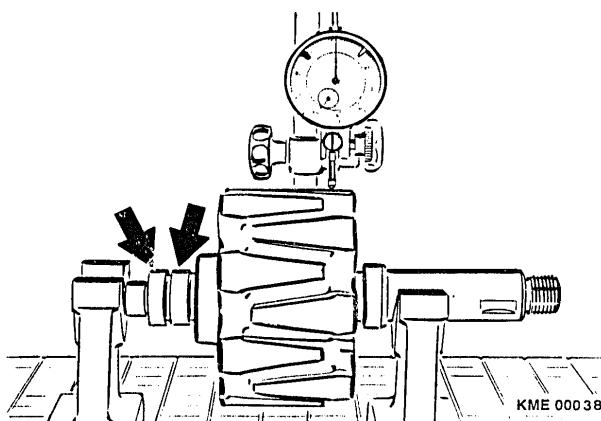

Figure 23 Rotor Concentricity Measurement
4. Position dial indicator (Magnetic Base T-M 1 (Bosch Number 4 851 601 124) and Dial Indicator EFAW 7 (Bosch Number 1 687 233 011)) to measure the concentricity of the rotor at:: (Figure 23)